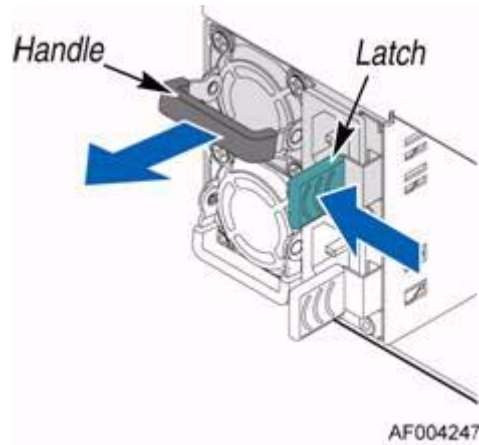

Figure 4-3 Removing the Power Supply Unit
1. Carefully push in the latch on the right-hand side of the unit as shown in Figure 4-3.